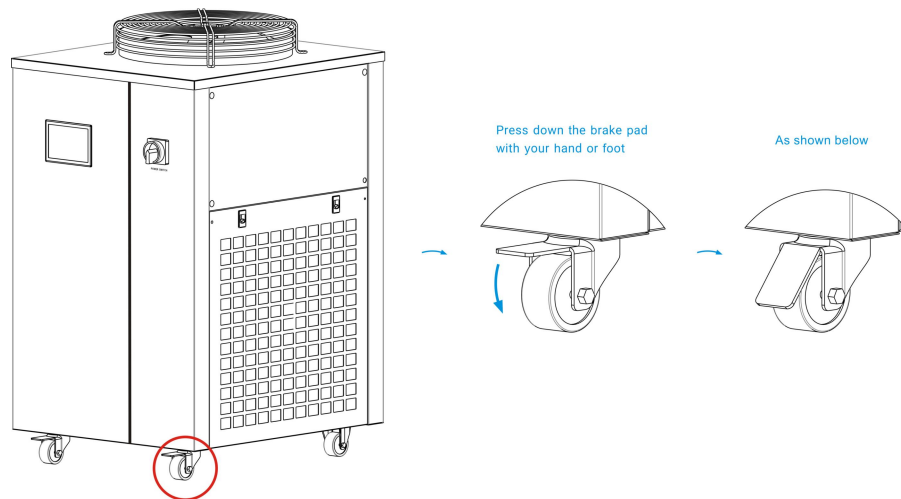

Figure 2: Illustration of Locking Casters
(2) When using the machine, please ensure that the casters are in a locked position to prevent the machine from slipping during operation. The brake device is typically installed on the wheel axle sleeve or the wheel surface and can be activated by either hand or foot. When pushing the machine, the wheels cannot move forward but can swivel, indicating the braking is correct, as shown in Figure 2.